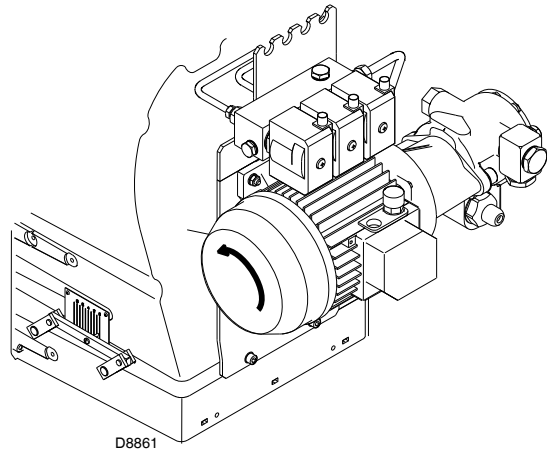

Fig. 23
- The rotation of the pump motor must be as indicated in Fig. 23.